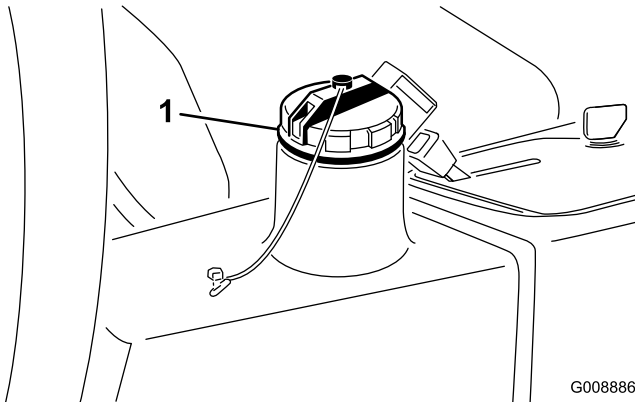

Figure 64
3. Fill the reservoir (Figure 64) with approximately 13.2 liters (3.5 U.S. gallons) of hydraulic fluid; refer to Checking the Hydraulic System.